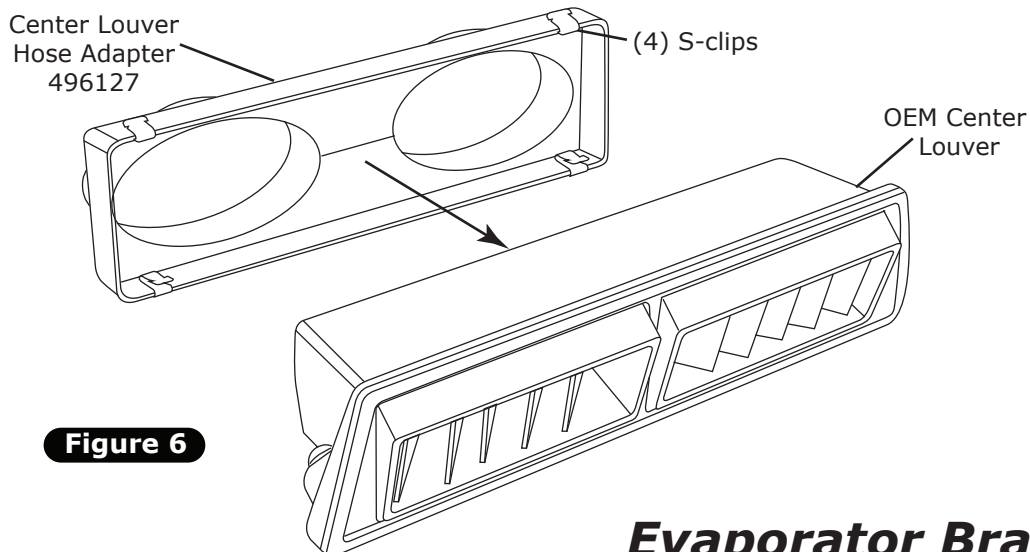

Figure 6
1. Install (4) S-clips onto center louver hose adapter (See Figure 6, below).
2. Install center louver hose adapter onto OEM center louver as shown in Figure 6, below.